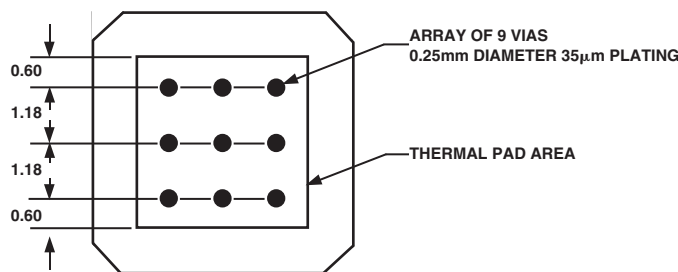

Figure 8. LFCSP via Pattern (Dimensions Shown in Millimeters)
2. The thermal pad of the CSP package provides a low thermal impedance path to the PCB. Therefore, the PCB must be properly designed to effectively conduct the heat away from the package. This is achieved by adding thermal vias to the PCB, which provide a thermal path to the inner or bottom layers. See Figure 8 for the recommended via pattern. Note that the via diameter is small. This is to prevent the solder from flowing through the via and leaving voids in the thermal pad solder joint.
| New Figure 8 | 18 |